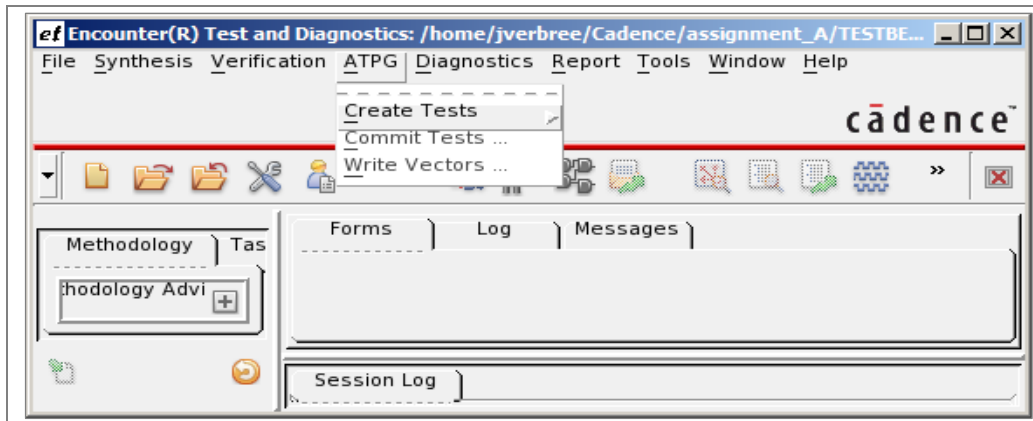

Figure 7: ET screenshot, ATPG
6. The ATPG process is next; see Figure 7. Test benches can be created for different type of tests such as Static Tests, Delay Tests, Scan Chain, etc (see ATPG→ Create Tests). This assignment targets Static Tests.